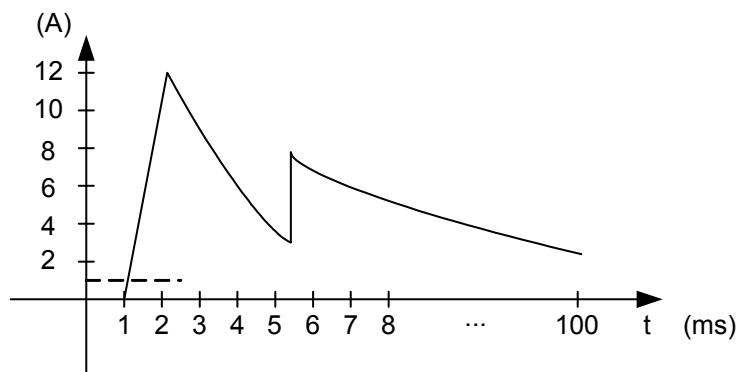

Figure 4-37 Measuring Inrush Current (1)
Users can use the following setting to measure the Inrush current (1) in Figure 4-37.
From Figure 4-37 it can tell that the current exceeds the trigger current (1A) around 1.1ms and since the time delayed is 0 second, the 66202 Power Meter starts to measure the Inrush current and the maximum Inrush current can be measured is 12A approximately.